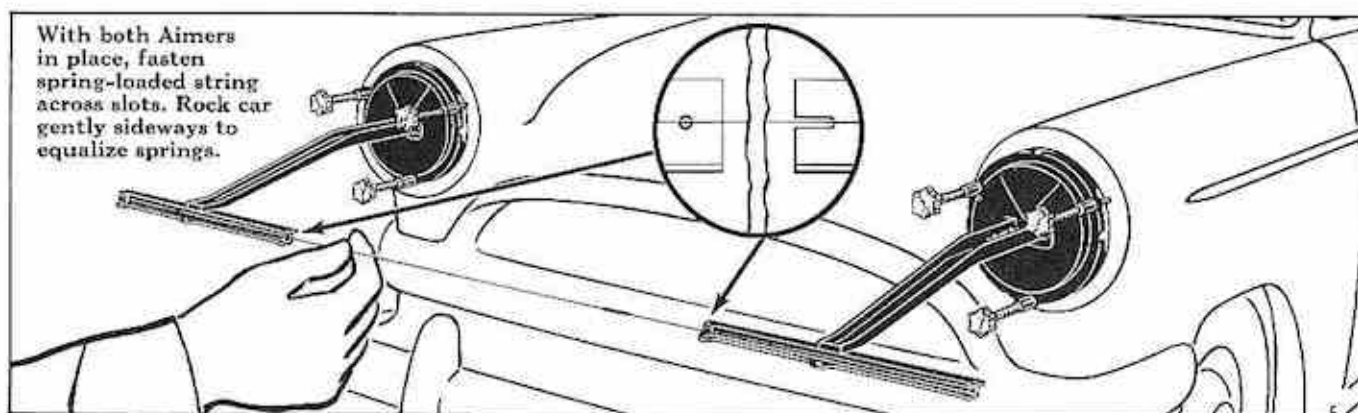

Fig. 112 Setting Up T-3 Safety-Aimer
4. Fasten spring loaded string from left aimer across slots to far side of right hand aimer. Rock car gently from side to side to equalize springs (Fig. 112).